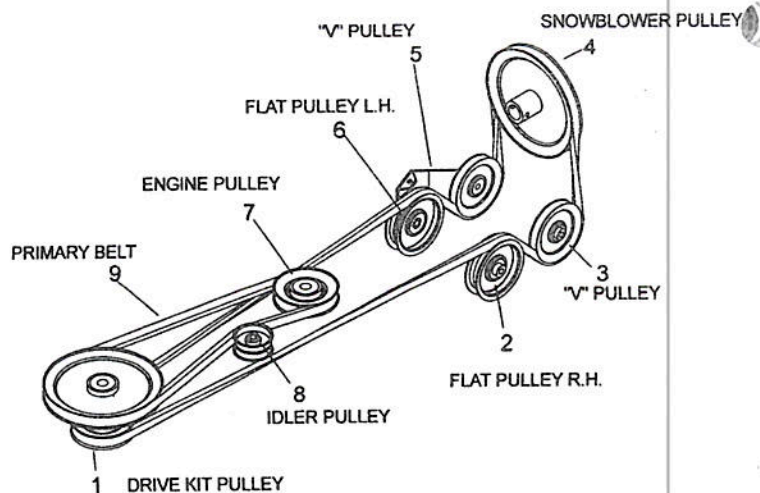

Figure 12
- c) Install the snowblower drive V-belt around the biggest snowblower pulley, route the drive belt under both « V » pulleys and on top of both flat pulleys. Route the V-belt around the drive kit pulley under the tractor. Now pull up the left hand pulleys tension arm. Verify the belt routing, it must be as figure 12.